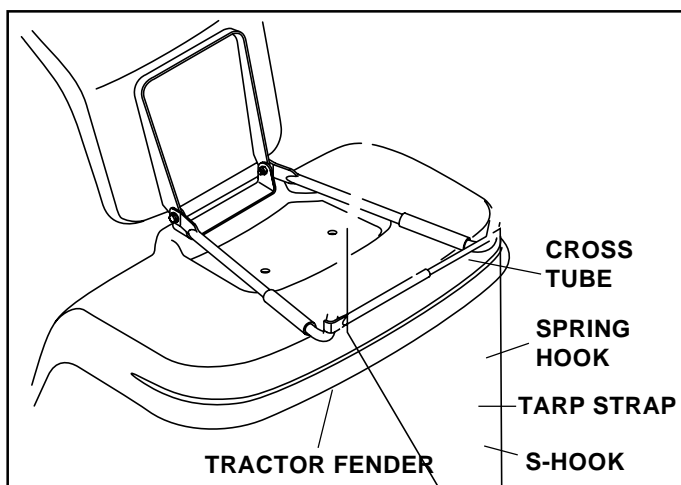

FIGURE 11
- Insert the small loop of the spring hook through the hole at one end of the tarp strap. See figure 11.
- Insert an S-hook through the other end of the tarp strap. See figure 11.
- Hook the spring hook over the end of the cross tube and attach the S-hook to the bottom edge of the tractor fender. See figure 11.
- Repeat above steps for other tarp strap. Attach to opposite end of cross tube. See figure 11.